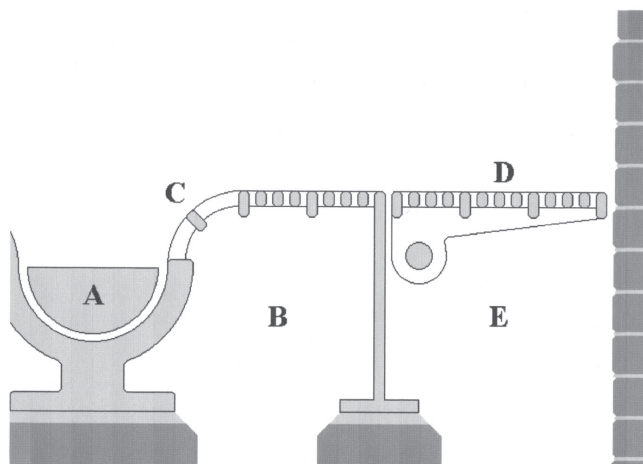

Figure 10-59. Dump grate
As the coal is pushed up it is mixed with air entering via the tuyeres (C in Figure 10-59), pipes, tubes or slots in the grate that admit the air into the furnace. The mixture is ignited by coal already burning above the grate. The coal air mixture partially burns on the grate and completes burning of hydrocarbons vaporized by the heat of the furnace in the space immediately above the grate. Air at the tuyeres and most active portion of the grate is considered primary air and is controlled by dampers supplying the air to the primary air zone (B).